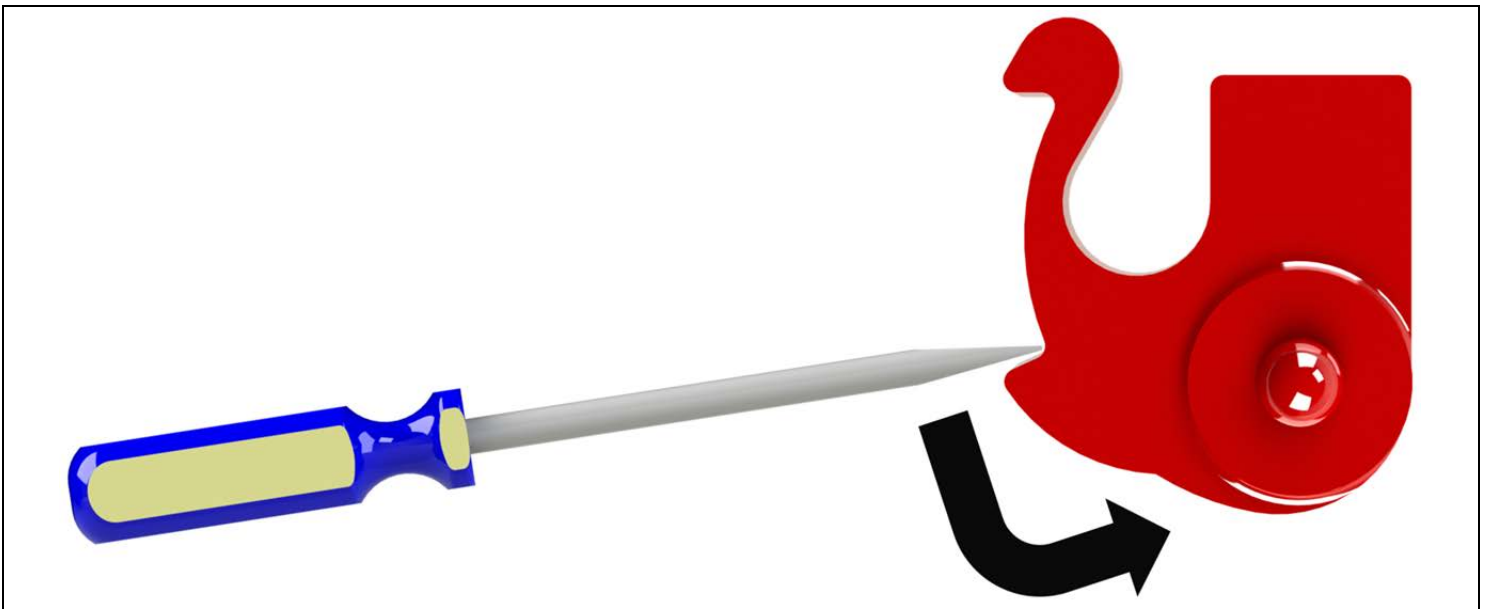

Figure 12. Disassembly Step 2
2. Locate the bearing clips at either end of the driveline. Insert a flat head screwdriver into the groove indicated in *Figure 12*, below. While pressing inward on the arm of the bearing clip, rotate the bearing clip in the counter-clockwise direction.